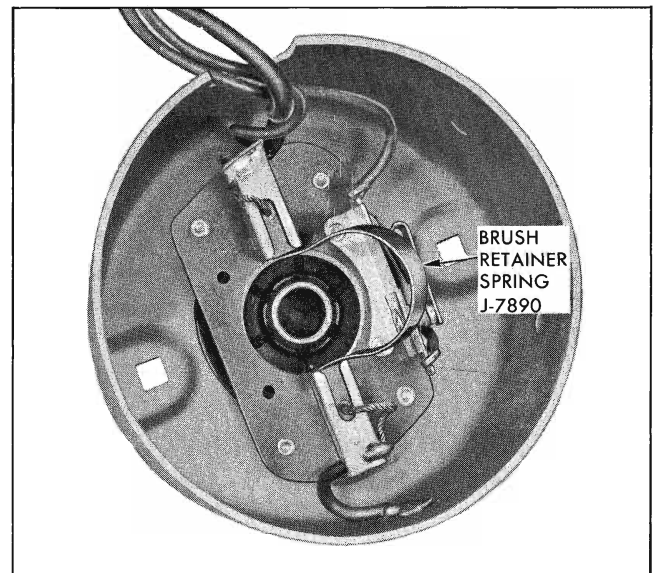

Fig. 11-89 Retainer Holding Brush in Place
b. Cut the internal field lead enclosed in black plastic tubing approximately two inches from the brush holder to which it is attached (Fig. 11-89).
- 6. Install brush retainer spring (Fig. 11-89) over entire length of guide to retain brush.